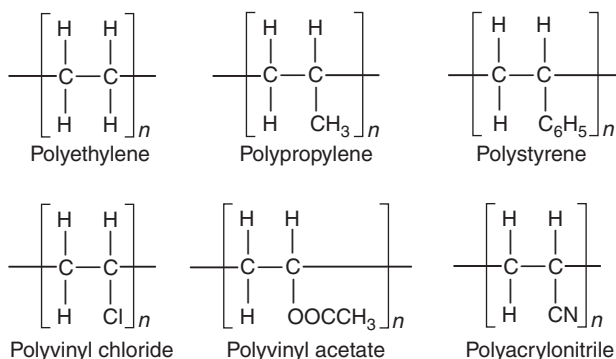

Figure 1 Examples of addition polymers.
3. **Addition and condensation polymers:** The polymers formed by self-addition of several monomers to each other without elimination of byproducts are called addition polymers. For example, PE, PVC, PMMA, etc. as shown in Figure 1.